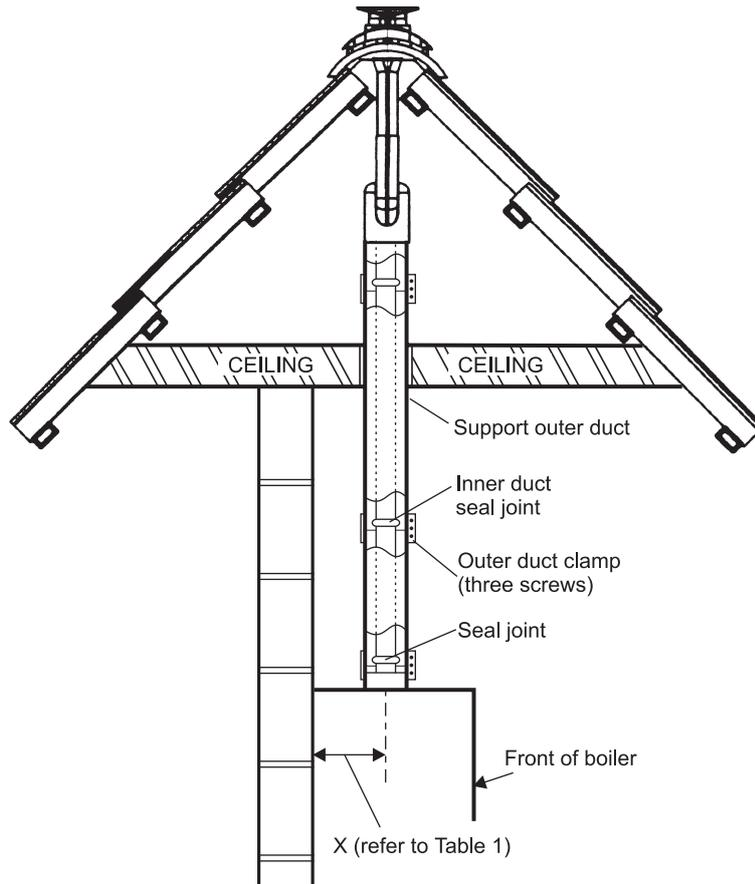

Fig. 4
- h. Assemble the flue extensions together by locating the inner duct into the seal joint and secure each extension together with the clamps supplied (three screws). Ensure that the clamps are positioned centrally over the joints. Refer to Fig. 4.